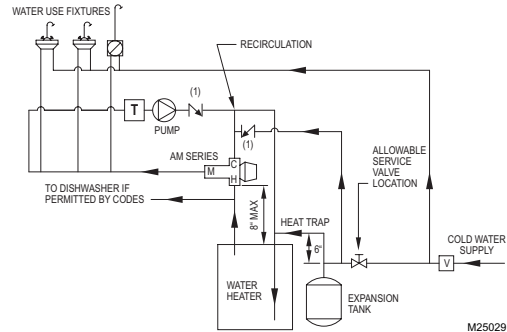

Fig. 1. AM-1 Series ASSE 1017 application
These AM-1 Series models can be installed in any position consistent with the intended use. For domestic hot water supply, the valve must be installed as shown in Fig. 1. There shall be no shut-off valves installed between the cold water line and the cold water connection on the AM-1 Series valve. Check valves shall be installed as indicated. A cold water service valve may be installed, as indicated, between the cold water supply line to the distribution system and the cold water line supplying both the water heater and the AM-1 Series valve.
2. Pierce center circle of nameplate with screwdriver and unscrew slotted screw. Remove handwheel (Fig. 1).
3. To limit the high temperature range at a set maximum (less than pos. 1 to pos. 4): Place arrow on handwheel as closely as possible to the **left** of the L-slot bracket (Facing arrow).